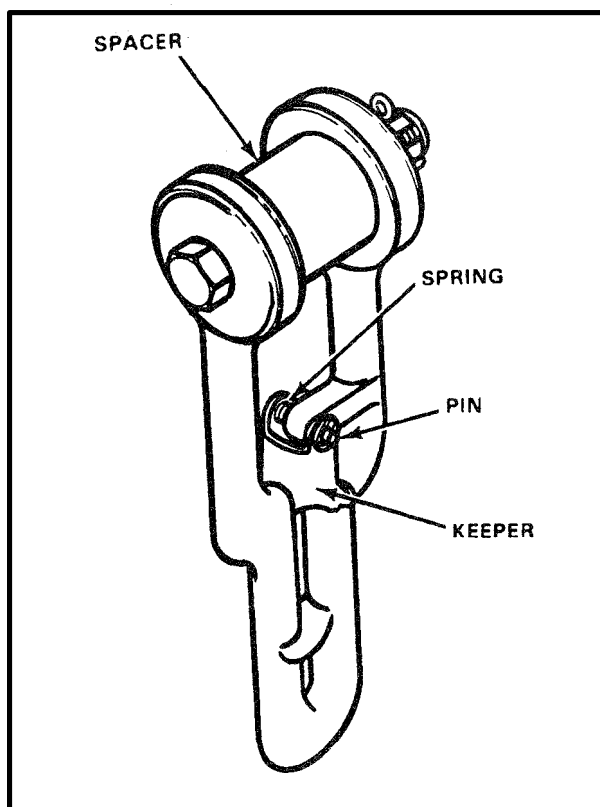

Figure 6-28. Grab Link
**c. Grab Link.** Each sling leg has a grab link (Figure 6-28) connected to the lower eye of the sling leg. The grab link attaches the sling leg to the chain section and permits varying the length of the chain. The grab link is